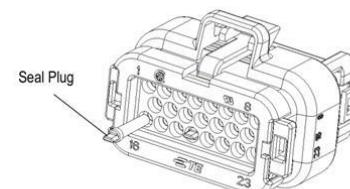

Figure 8b
**Reduced Wire Size** – AMPSEAL 16 Size 20 seal plug 776364-1 is designed to keep out contaminants if diaphragm is pierced. Insert seal plug into the circuit cavity as far as it will go. An insertion tool is not required for this procedure. See Figure 8b